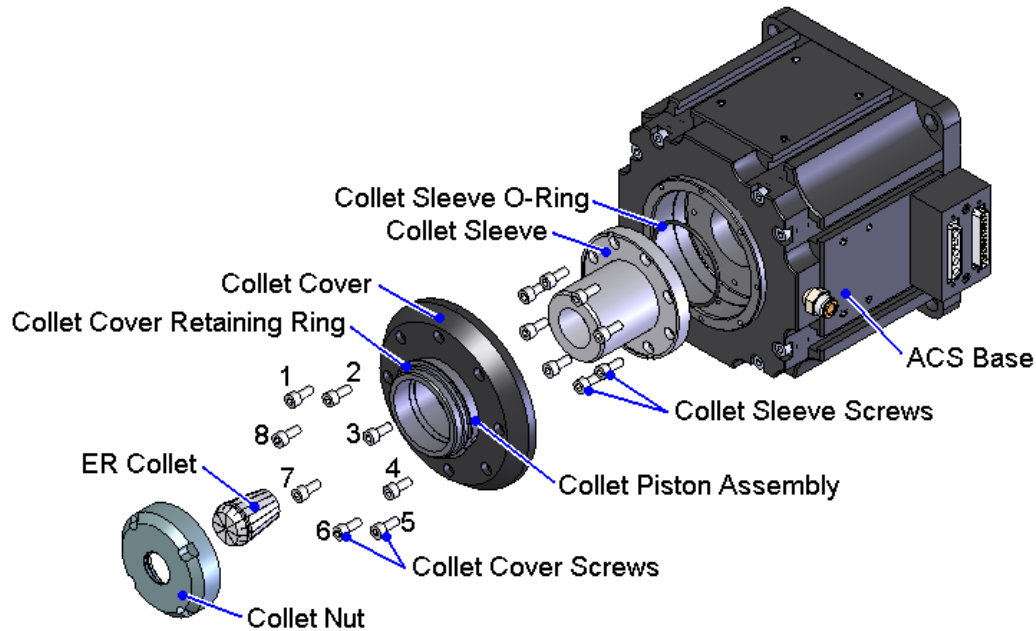

Figure 4-13: Exploded View of Collet Assembly
5. Refer to Figure 4-13. Remove every other collet cover screw (i.e., screws 1, 3, 5, and 7). All screws cannot be removed at once as the cap is under tension from several springs and will be damaged or cause bodily harm if removed without caution.